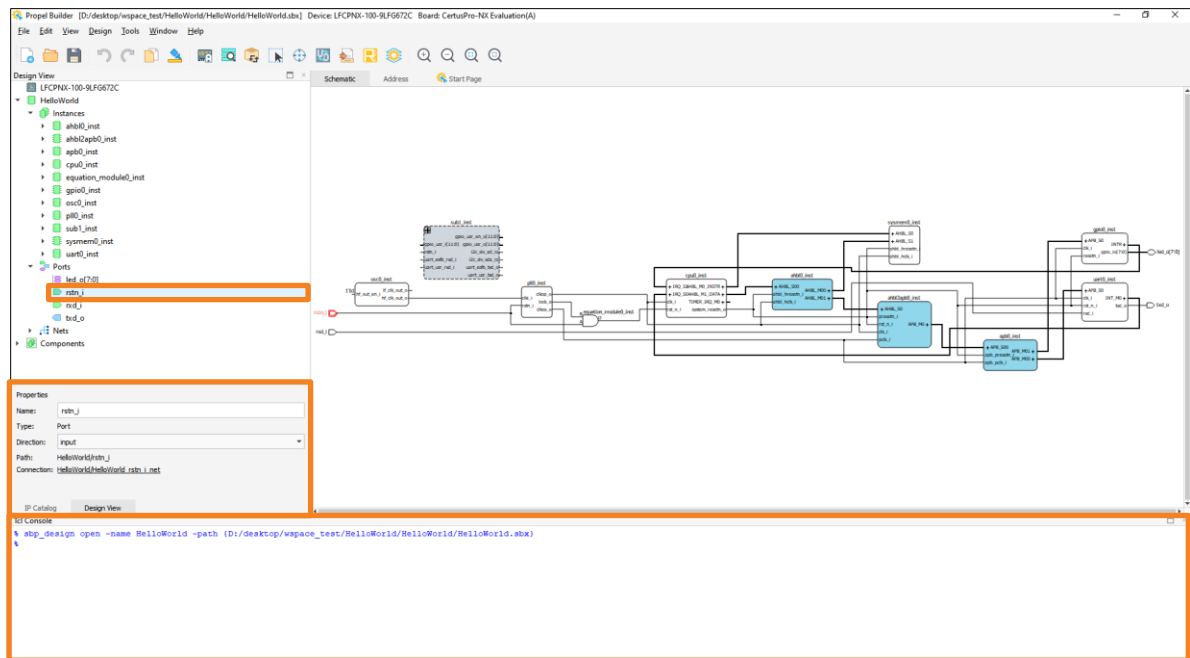

Figure 2.106. Properties of Port
- a. Click on a port, **Properties** window open (Figure 2.106).